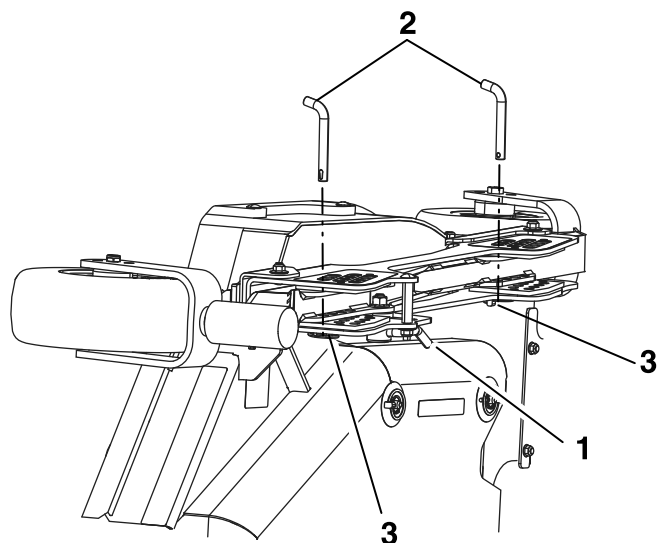

Figure 24
- B. Unlock the cam locks located on the height of cut channel on the wing deck (see Figure 24).
- D. Move the wing deck to the appropriate height and reinstall the height of cut pins and lynch pins as shown in Figure 24.